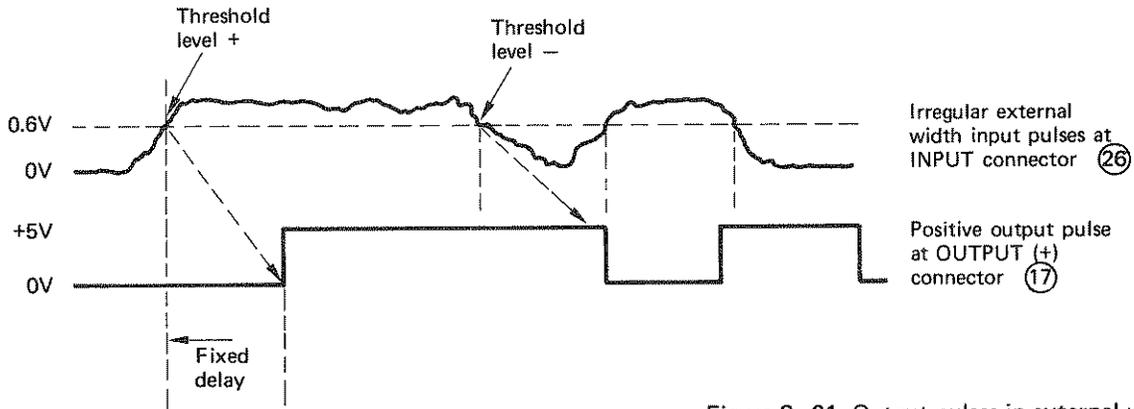

Figure 3-21. Output pulses in external width mode
- a. Connect the external signal to the INPUT connector (26) on the rear panel of the 8013B.
- b. Set the Mode Selector switch (25) to EXT WIDTH.
3-53 The output pulses should appear at the OUTPUT (+) connector (17) as shown in Figure 3-21.